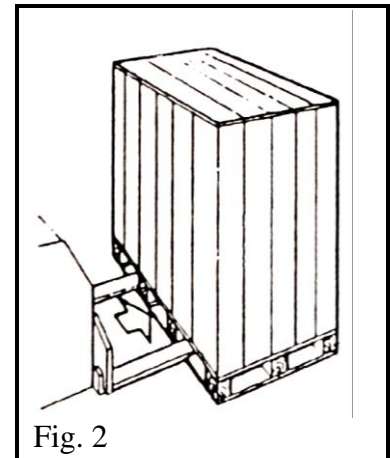

Fig. 2
- The packaged machine may be moved by means of a fork lift truck of suitable capacity. Insert the forks at the points shown in figure 2.